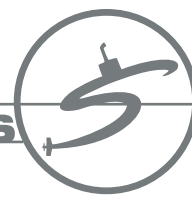

Figure 10. Scripting Orders.
■ **Orders.** Click the "**Orders**" button at the top of the 'Maneuvers' tab. To script a course change, click on the "**New Course**" button and enter the desired course and direction of turn of the platform. To script a speed change, click on the "**New Speed**" button and enter the desired speed and/or the acceleration rate of the platform. By clicking the "**New Depth**" button, depth and dive rate can be entered. After each new order, click on the **Apply** button, for it to be added to the list of orders in the task window (refer to Figure 10).